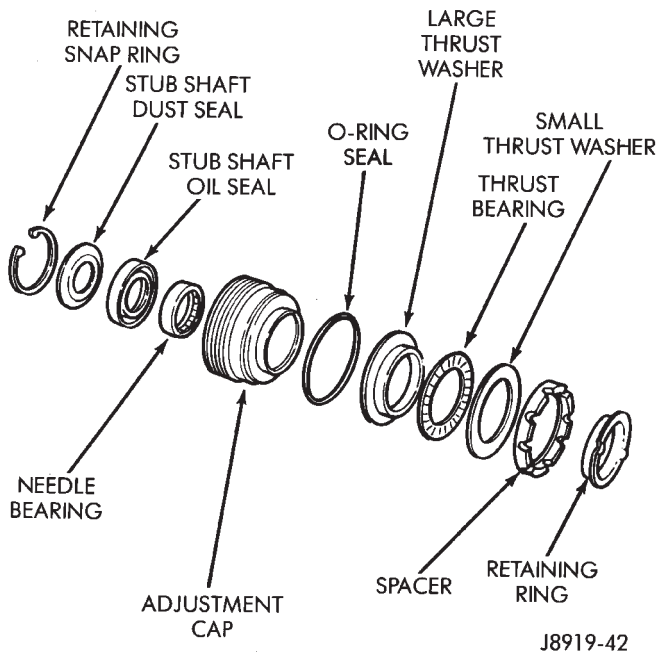

Fig. 21 Adjustment Plug Components
(4) Remove bearing spacer, races and thrust bearing (Fig. 21).